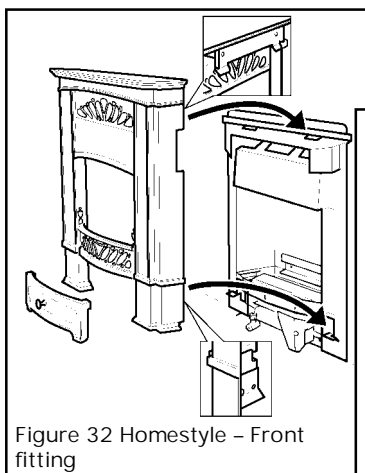

Figure 32 Homestyle - Front fitting
**9.2.8** The front casting has a location plate at the back near the top and a location bracket near the bottom rear of each vertical column. These locate into the convection box. Carefully lift the cast front into position squarely with the convection box. Holding the cast front a little above the top surface of the convection box, locate the two lower location brackets into the lower case brackets and the upper location plate into the two slots in the upper case support. Gently lower the cast front making sure that it causes no damage to the hearth or fireplace surround. The cast front should sit squarely on the hearth and against the vertical surface of the fireplace. See figure 32.